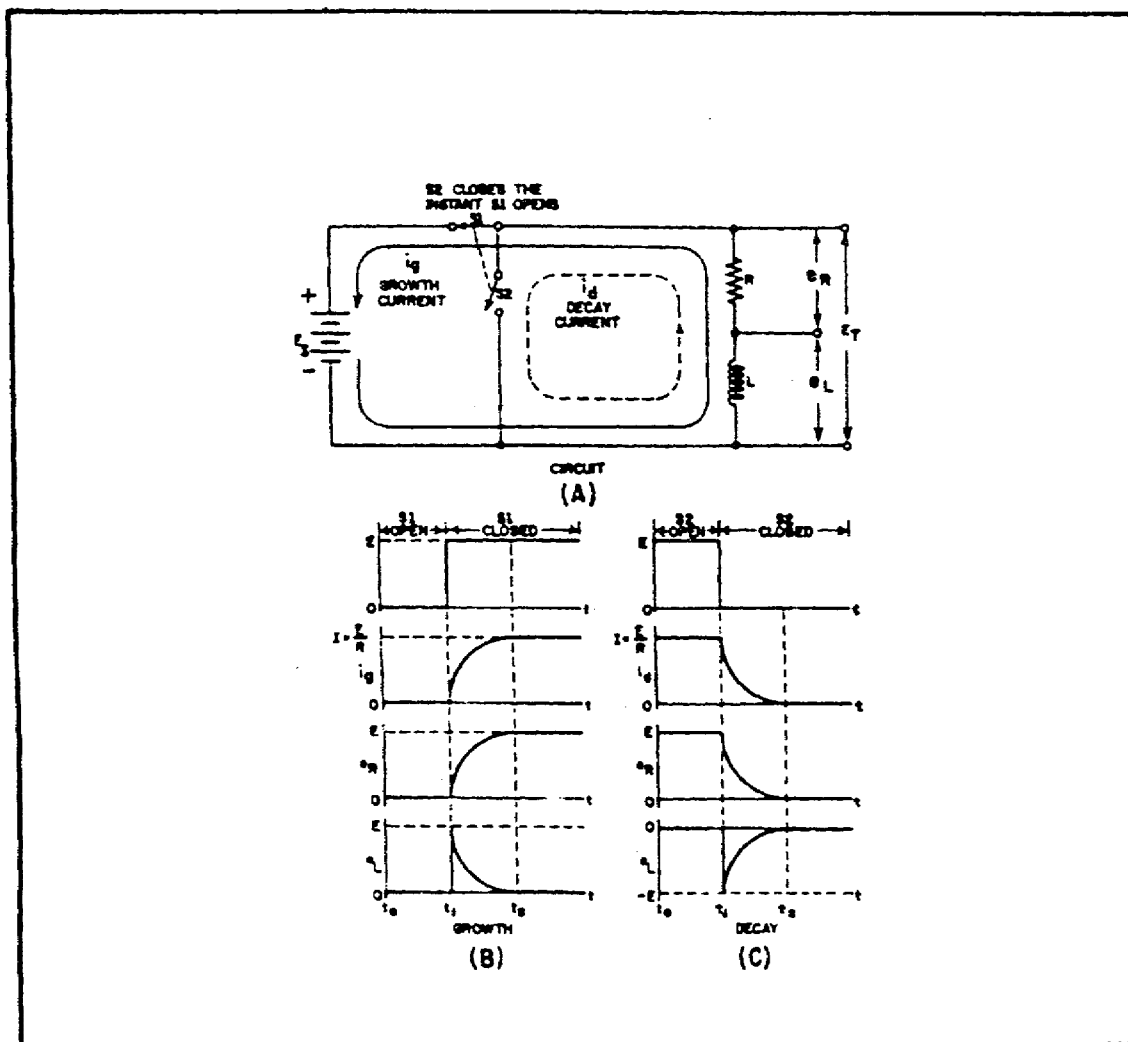

FIGURE 20. GROWTH AND DECAY OF CURRENT IN AN LR SERIES CIRCUIT.
A voltage divider containing resistance and inductance may be connected in a circuit by means of a special switch, as shown in figure 20, view A, on the following page. Such a series arrangement is called an inductance resistance (LR) circuit.
When switch S_1 is closed (as shown), a voltage (E_s) appears across the voltage divider. A current attempts to flow, but the inductor opposes the current by building up a back emf that, at the initial instant, exactly equals the input voltage (E_s). This is the same as having two voltage sources of equal value and opposite polarity. With this condition, no current will flow. Because no current can flow, there is no voltage drop across resistor R. View B, figure 20, shows that all of the voltage is impressed across inductor L and no voltage appears across resistance R at the instant switch S_1 is closed.
As current starts to flow, a voltage (e_R) appears across R, and the voltage across the inductor is reduced by the same amount. The fact that the voltage across the inductor (L) is reduced means that the growth current (i_g) is increased and consequently e_R is increased. View B, figure 20, shows that the voltage across the inductor (e_L) finally becomes zero when the growth current i_g stops increasing, while the voltage across the resistor (e_R) builds up to a value equal to the source voltage (E_s).
When the battery switch (S_1) in the LR circuit of figure 20, view A, is closed, the rate of current increase is maximum in the inductive circuit. At this instant, all the battery voltage is used in